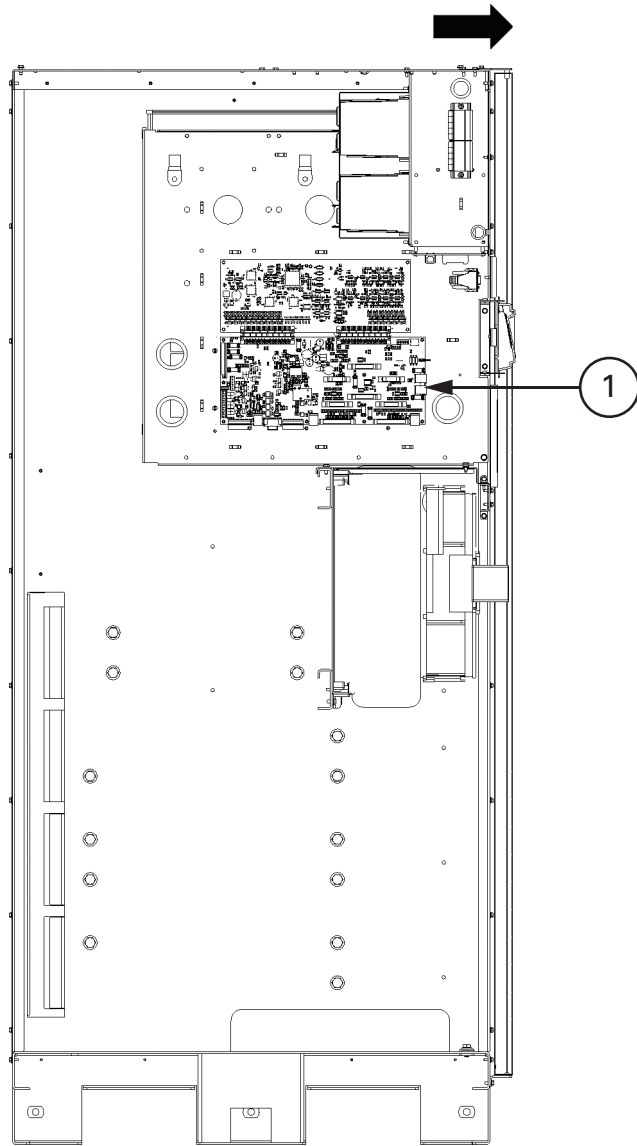
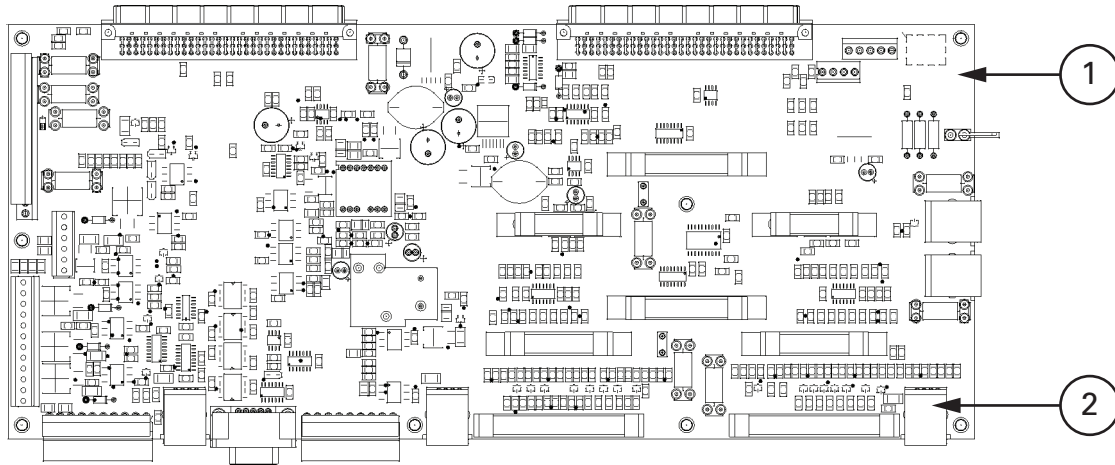

Figure 4-11. PI1 interface board location
Figure 4-12. J39 location on PI1 interface board
21. In the ISBM section, locate the J39 inverter CAN connector on the PI1 interface board and connect the RJ45 CAN cable connector to the J39 connector (see Figure 4-11 and Figure 4-12 on page 47).